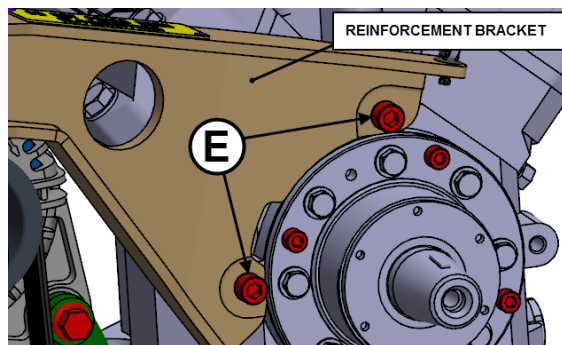

FIGURE 10
15. Unscrew and remove two socket cap screws **E** (**FIGURE 10**).